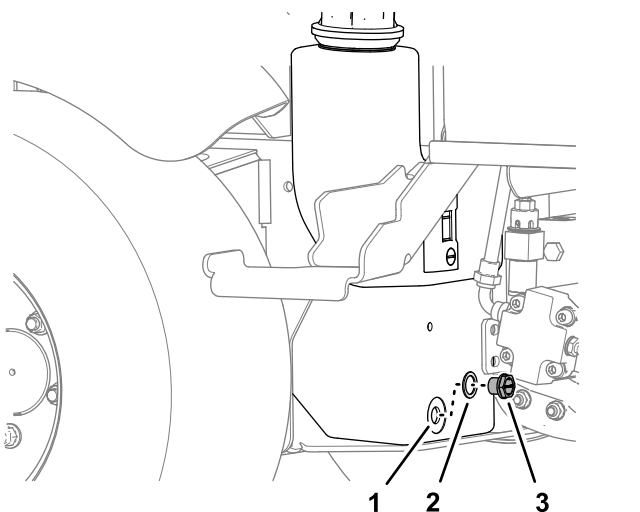

Figure 75
3. Align a drain pan under the hydraulic tank, remove the tank drain plug, and fully drain the hydraulic fluid (Figure 75).